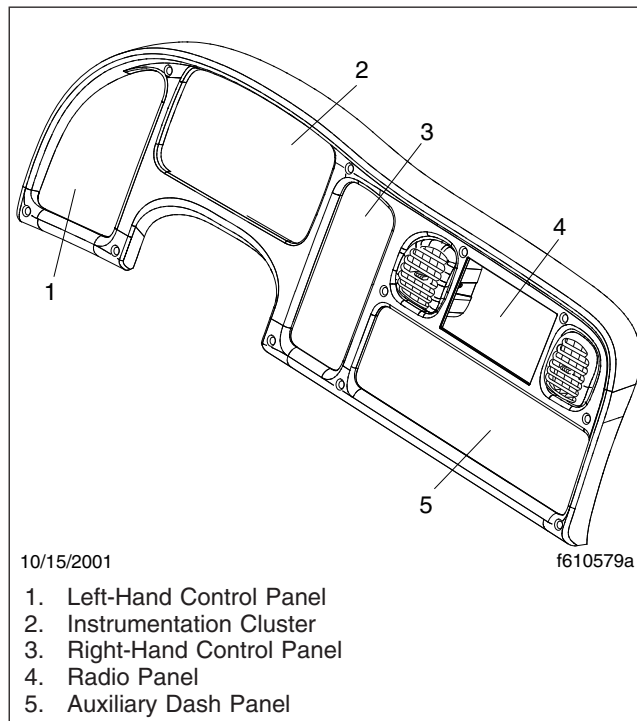

Fig. 5.3, Control Panels
The left-hand control panel (**Fig. 5.3**, Item 1) contains a face vent and four switches arranged in a vertical line. In the standard cab, the four switches usually consist of the headlight, panel light increase/decrease, and the cruise control on/off and set/resume switches.
The right-hand control panel (Fig. 5.3, Item 3) usually contains the transmission push-button shift selector (vehicles with an automatic transmission) and the trailer brake valve. On vehicles with a manual transmission, a variety of switches are installed here. If there is a dash-mounted air intake restriction indicator, it is often mounted on the right-hand panel.
The auxiliary dash panel (Fig. 5.3, Item 5), located below the radio panel, contains the parking brake control and trailer air supply valves, the cigarette lighter (push the knob in to heat the element; the knob will pop out when the element is hot), and a variety of switch options. The auxiliary panel may also contain an antenna connection and positive (+) and negative (-) power connections for a citizen's band (CB) radio.